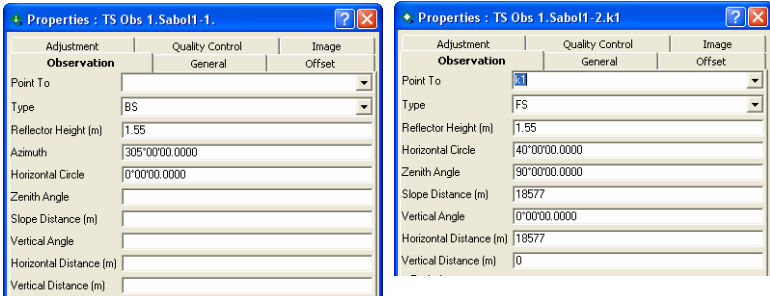

Figure 5-102. Properties for BS and FS points
- For BS, set the value for the Horizontal Circle (Figure 5-102 on page 5-71). If this unit was equal to zero, set zero in this field.